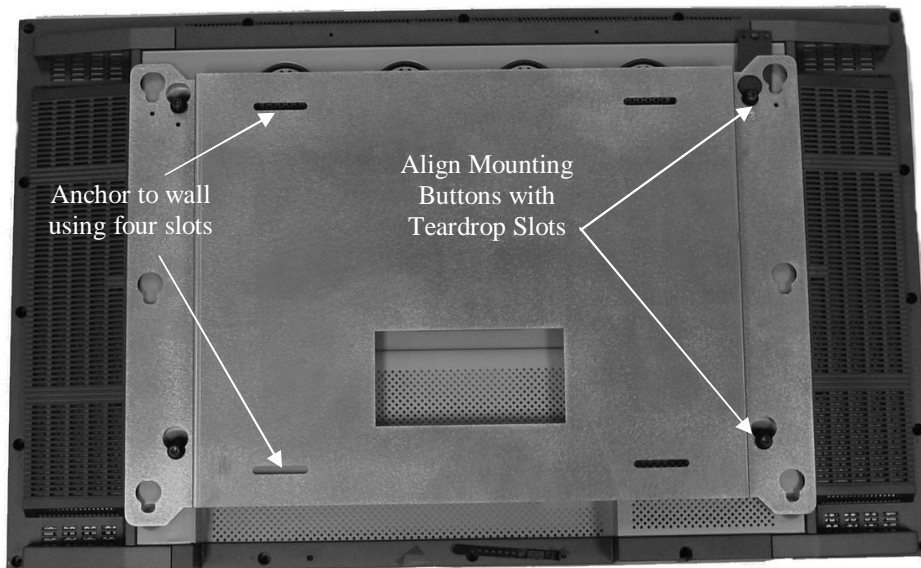

Figure 7
3. Securely anchor the plasma static mount to the wall using wall studs or supporting framework (see Figure 7).